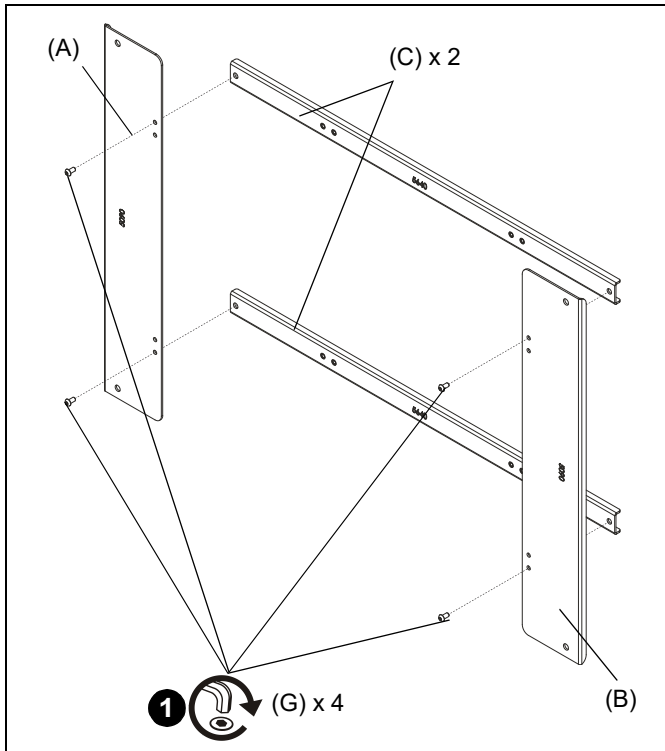

Figure 1
1. Attach the interface brackets (A and B) to the two cross bars (C) using four M6 x 12mm button head cap screws (G) and the M4 hex key (H). (See Figure 1)